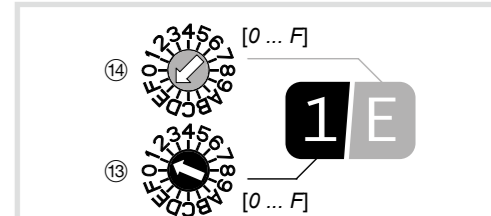

Figure 5: Example address "1/E"
The indoor station can be addressed quickly and easily using both address rotary switches (13), (14). The address to be set is 2-digit, comprising group address and intercom device address. It must be identical with the address of the associated call push-button on the door station. Figure 5 shows the structure of the address by way of example: